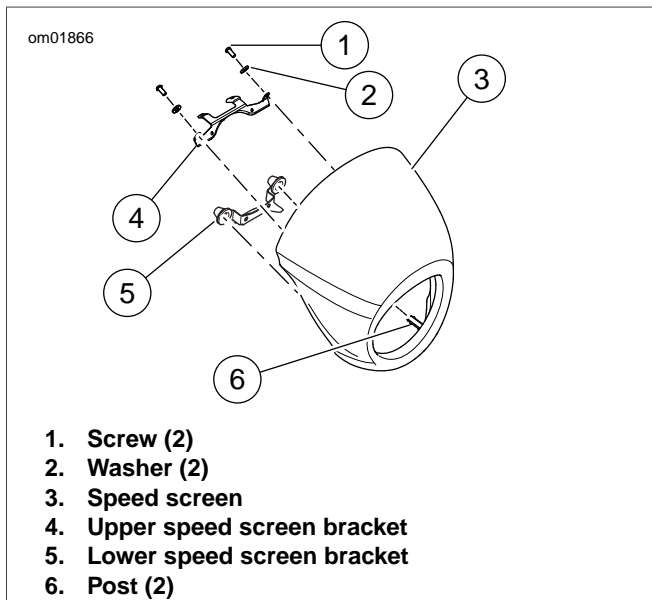
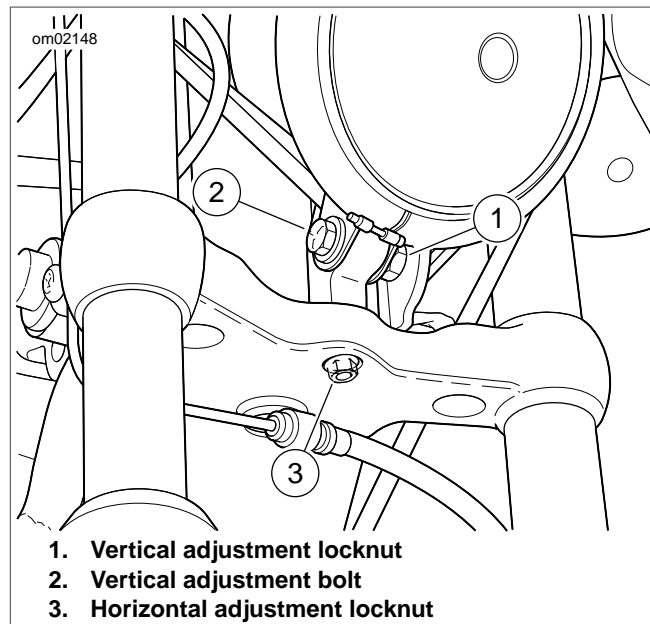
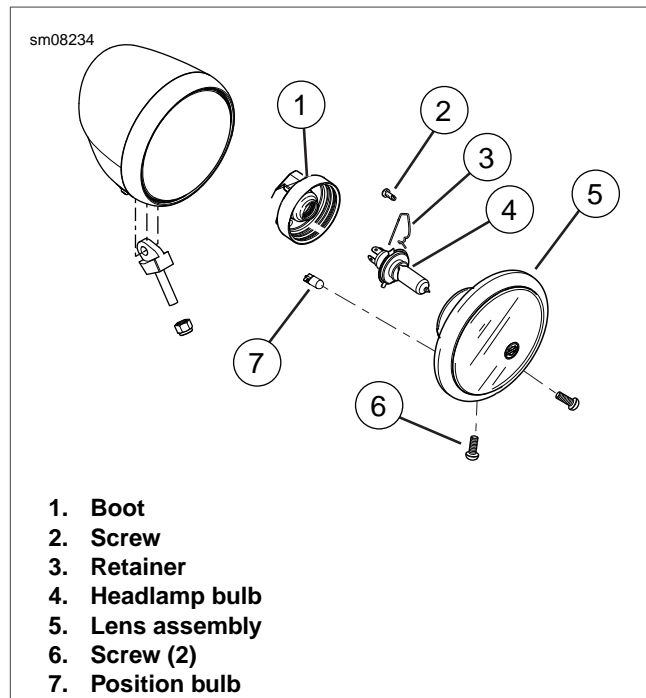

Figure 48. Headlamp Speed Screen
Figure 49. Headlamp Adjustment
Figure 50. Headlamp Bulb
1. See Figure 48. Remove speed screen screws (1) and washers (2).
2. Pull speed screen away from upper speed screen bracket (4).
3. Pull speed screen way from lower speed screen bracket (5) to remove posts (6) from grommets.
4. See Figure 49. Loosen horizontal adjustment locknut (1).
7. See Figure 48. Align posts of speed screen (3) with grommets.
8. Install speed screen onto lower speed screen bracket (5).
9. Align speed screen to upper speed screen bracket (4).
10. Install washers (2) and screws (1). Tighten to 2.3-3.3 Nm (21-29 **in-lbs**).
1. See Figure 49. Loosen locknut (1) for vertical adjustment bolt (2)
1. See Figure 48. Remove screws (1) and washers (2).
5. See Figure 50. Remove screws (6).
6. Pull lens assembly (5) from headlamp housing.
8. Loosen screw (2).
9. Remove retainer (3).
10. Remove headlamp bulb (4).
11. Remove position bulb (7).
13. Install retainer (3).
14. Tighten screw (2).
16. Attach lens assembly (5) to headlamp housing.
17. Install screws (6).
18. See Figure 48. Align posts of speed screen (3) with grommets.
19. Install speed screen onto lower speed screen bracket (5).
20. Align speed screen to upper speed screen bracket (4).
21. Install washers (2) and screws (1). Tighten to 2.3-3.3 Nm (21-29 **in-lbs**).